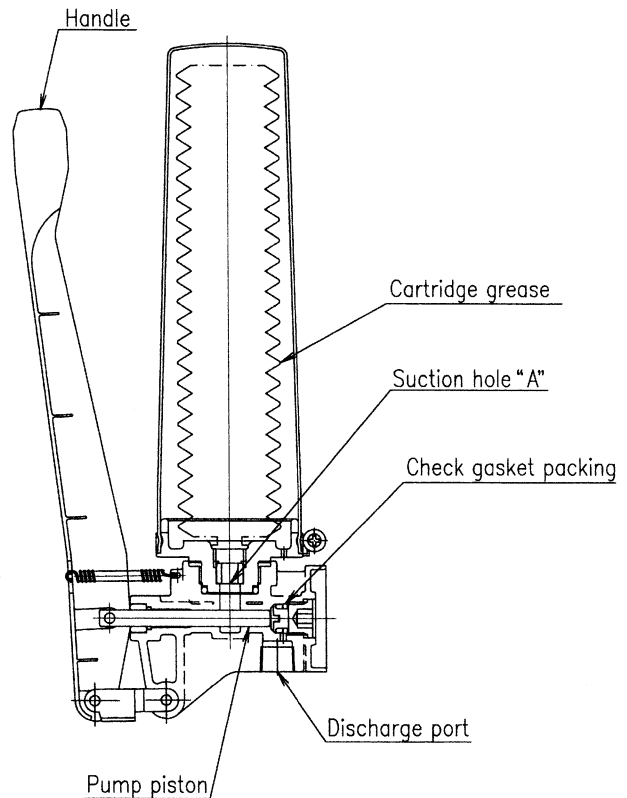

Figure 1
(See figure 1. This figure is LB04C, the same operation as LB05F or LB05B)
- 1) When drawing the handle front side (left side about Figure 1), pump piston moves left and suction hole "A" is opened.